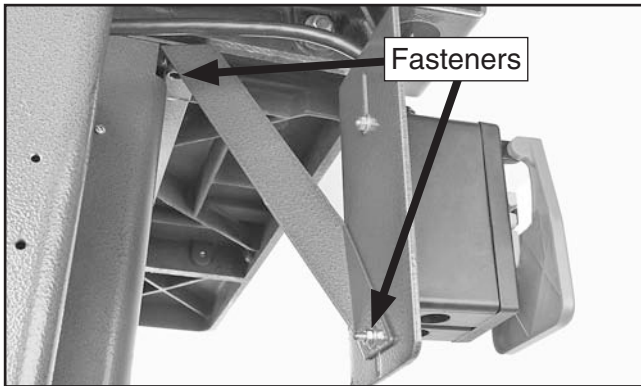

Figure 17. Switch bracket installed.
- Mount the switch brace, as shown in **Figure 17**, using the pre-installed table mounting fasteners on the top end and the switch mounting fasteners on the bottom end.